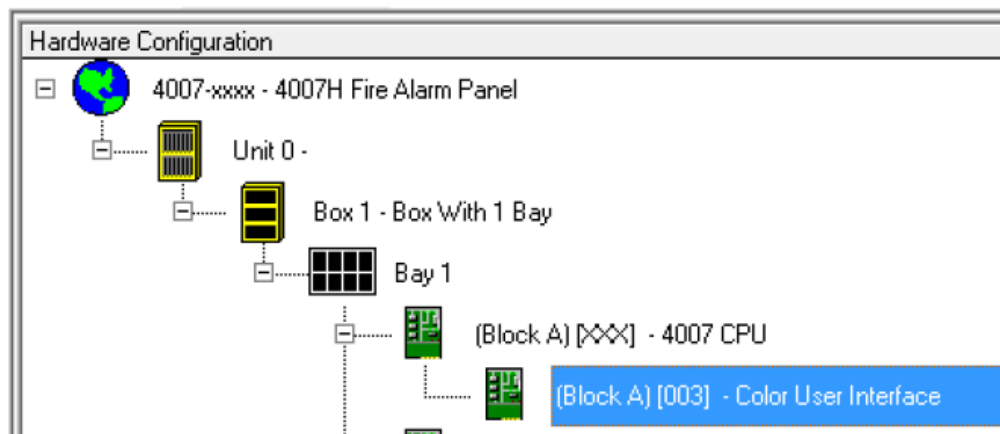

Figure A-1. Expanded View of Hardware Configuration
1. Click the **Hardware** tab and expand the Unit 0, Box 1, Bay 1, and Block A icons to display the Color User Interface icon, see Figure A-1. Click the + signs to the left of the Unit 0, Box 1, Bay 1, and Block A icons to expand them.)
2. Right click the Color User Interface icon (highlighted in Figure A-1) and select **Properties**.